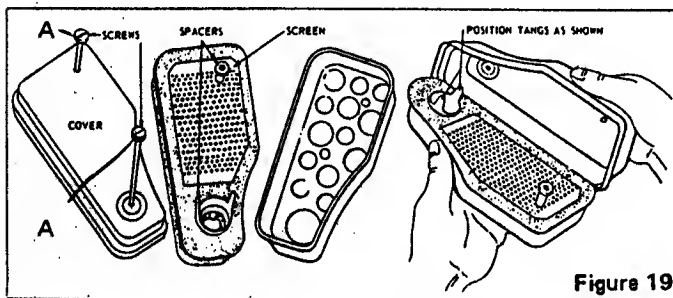

Figure 19
1. Raise the tractor hood. Remove screws A, Figure 19, and lift off complete air cleaner assembly.
2. Remove screen and spacers from the foam element, Figure 19.